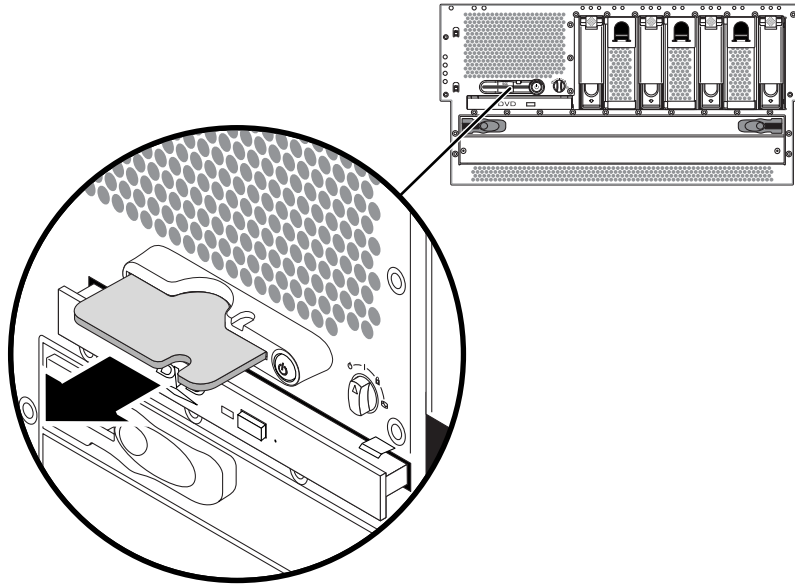

FIGURE 4-5 Removing a System Configuration Card
5. Pull the security post out of its position from in front of the system configuration card (FIGURE 4-5).